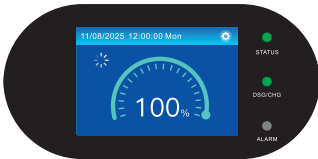

Fig.9
- Verification: Verify that the Run LED is on and the Alarm LED is off (see Fig. 9).